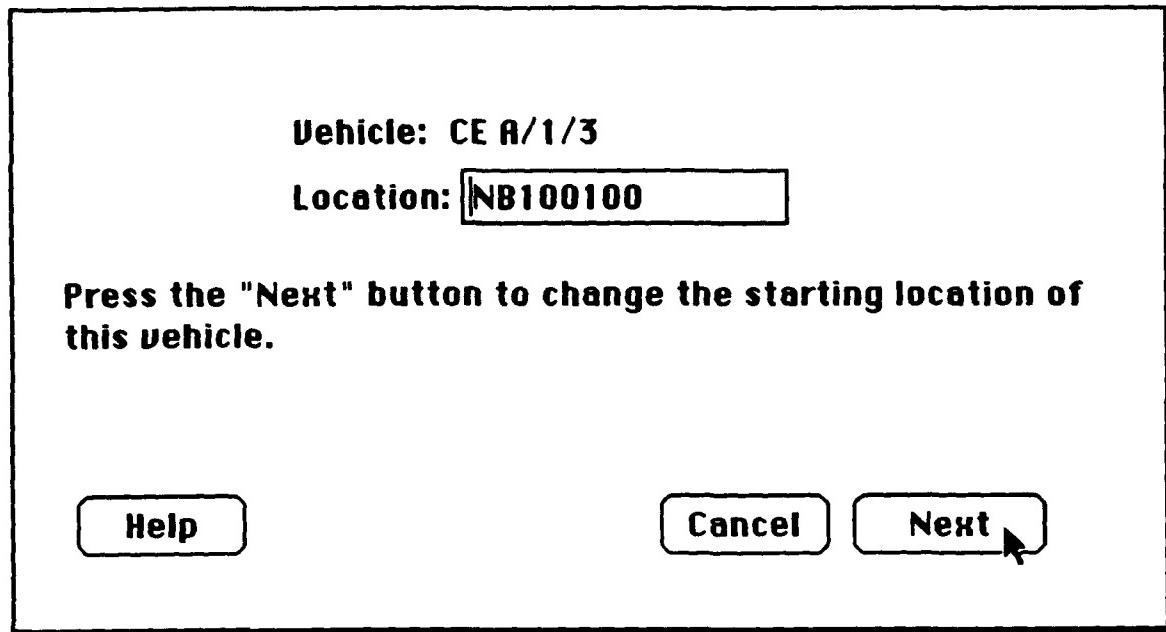

Figure 5.12-3 Combat Engineer Asset Location dialog box
Step 1: To change the starting location of any asset, click anywhere on the line associated with the asset that need to be changed. The Combat Engineer Location input dialog box as shown in Figure 5.12-3 will appear.